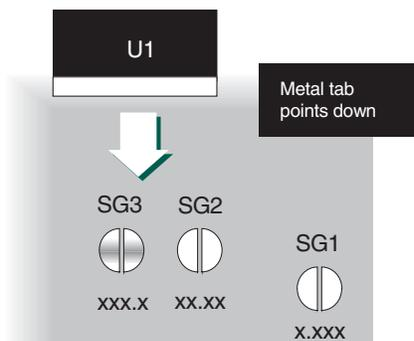

Figure 2. Installing U1
3. Battery Operation: Open SG4 and install U1 (LM7805CT) with its metal tab facing down as shown Figure 2. Allowable input power ranges (J1, pins 5 and 6) are as follows: